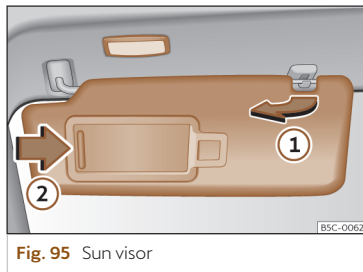

Fig. 95 Sun visor
- The sun visor can be pulled out of its mounting and turned towards the door >>> Fig. 95 ①.